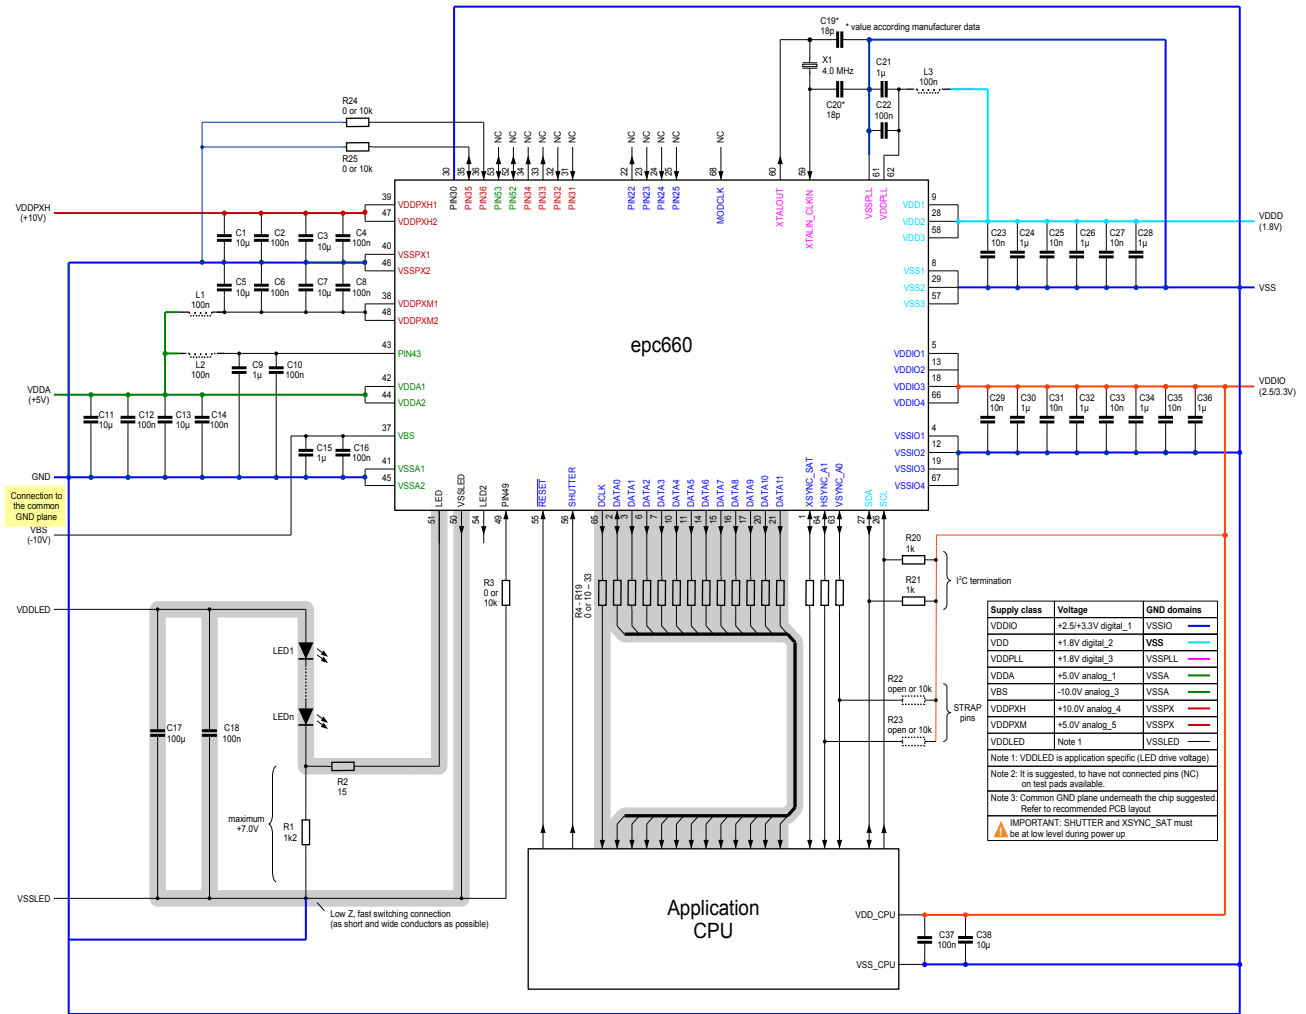
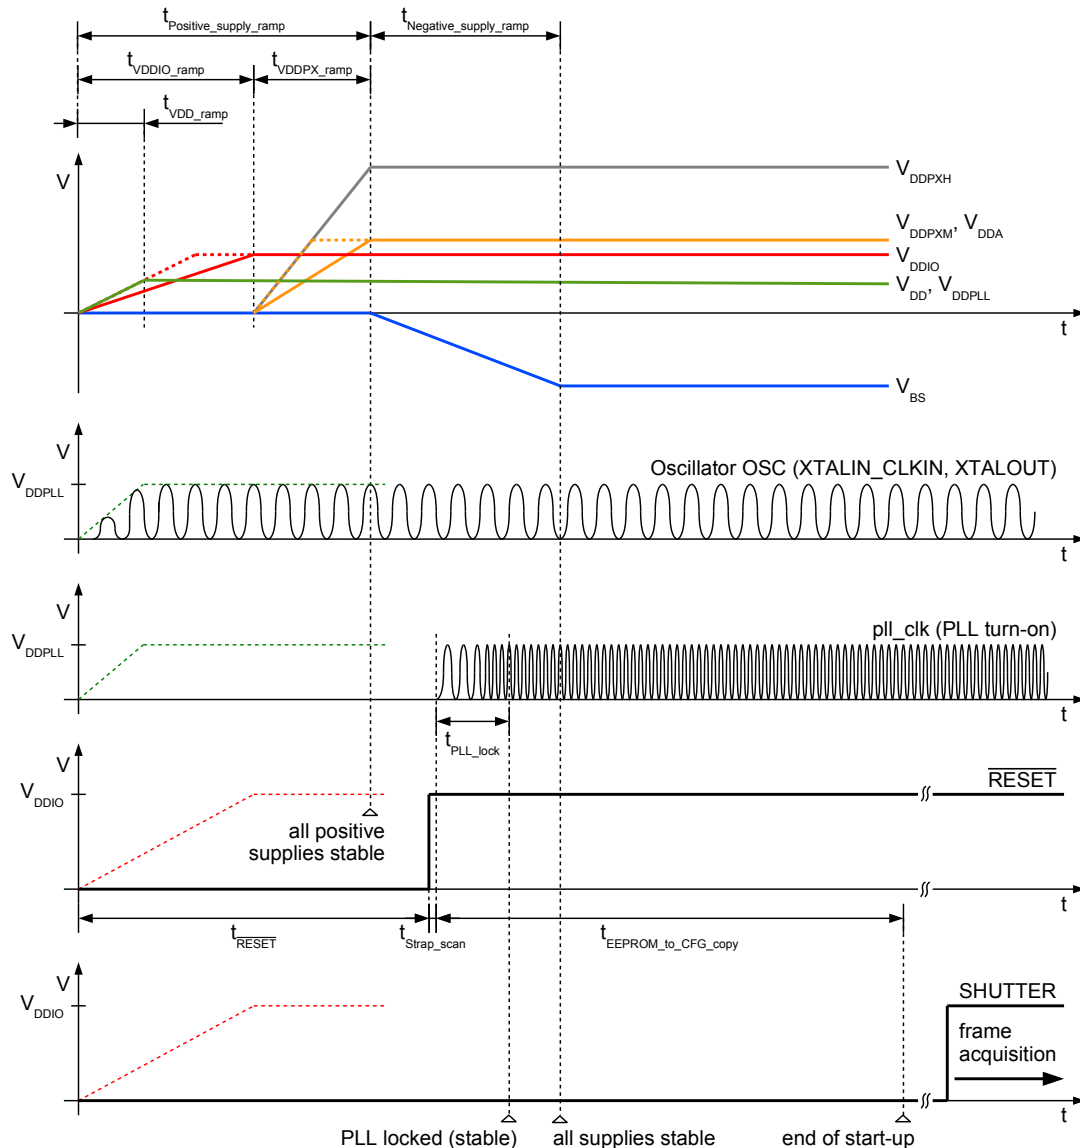

Figure 17: Typical application diagram
Figure 21: Power-up and reset sequence
Table 11: Values of component related to epc660 chip, see Figure 17
1. epc660 is supplied with +1.8V, +2.5/3.3V, +5V, +10V and -10V. See Figure 17.
3. +1.8V is used for supplying the digital logic (VDD), the on-chip oscillator OSC and the phase-look-loop PLL (VDDPLL). These supplies are marked in the application diagram as VDD and VDDPLL respectively (Figure 17). Their supply wiring must be separated from the digital wires and physically isolated from each other. The XTAL/OSC and PLL are critical parts of the chip which directly impacts the optical system performance (i.e. distance calculation). Thereof, the VDDPLL supply needs a well decoupling from VDD, because the digital logic creates some internal switching noise on VDD.
5. +5V is used for supplying analog blocks of the chip e.g. pixel-field drivers and ADC readout circuitry. Refer to Figure 17.
16. Pins not listed here have to be connected according Figure 17.
During the power-up sequence, VDD and VDDPLL supplies (Figure 21) must be applied at the same time to the epc660. VDDIO can be applied either at the same time or after VDD and VDDPLL supplies become stable. In a system where VDDIO voltage is connected in parallel to application CPU IO supply pins (see Figure 17), VDD and VDDPLL can be generated by a linear regulator directly from VDDIO supply. In this case, all these three supplies ramp together.
The epc660 starts using either the internal 4MHz oscillator OSC with a crystal/resonator (Figure 17) or an external 4MHz clock, followed by an EEPROM copy sequence in parallel to the PLL turn-on phase. This is the factory default configuration. Several configuration registers are modified by copying the EEPROM content (Figure 58, i.e. overwrite reset values).
The epc660 has output pins with dual/alternative functionality for PCB level flexible start-up configuration changing, called 'strap pins'. RESET release is followed by a strap pin scanning step. The chip programs its strap pins as inputs with internal pull-down resistors enabled for 4 osc_clk periods (refer to Table 1 and Table 3.). If there is no external pull-up resistor connected, the corresponding strap pin will be scanned as logic 0 due to the internal pull-down resistor. If there is an external pull-up resistor connected (Figure 17), it will override the internal pull-down and corresponding pin will be scanned as logic 1. After the strap scan period, pins are programmed back as outputs so that they can be used for their main function. Strap pins and their definitions are listed below (Table 12).